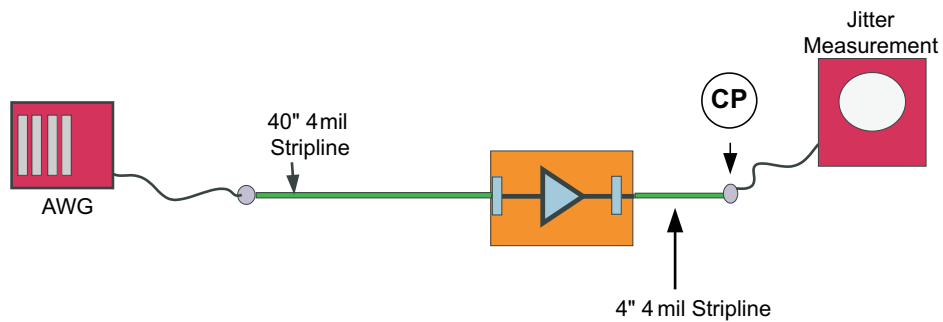

Figure 8. Jitter Measurement Test Condition
(1)  $T_J = (14.1 \times RJ_{SD} + DJ)$  where  $RJ_{SD}$  is one standard deviation value of RJ Gaussian distribution. Jitter measurement is at the SATA connector and includes jitter generated at the package connection on the printed-circuit board, and at the board interconnect as shown in Figure 8.